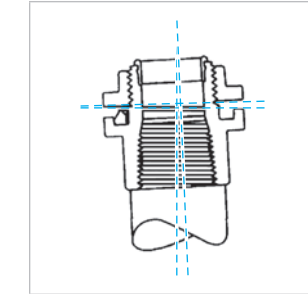

Figure 1
**1. Sealing ring and groove** with innovative profile outperforms standard 'O' ring design. Sealing ring is captive before installation and resists buckling or slipping during installation. The seal groove is designed for optimum compression of the sealing ring. The sealing ring is designed to provide a complete 360° seal, even when the conduit is not perpendicular with the enclosure. (See Figure 1)